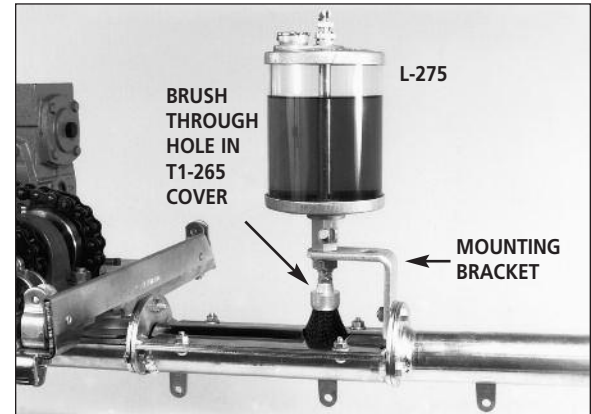

Figure 16
- Solenoid operated and drip type lubricators come complete with a mounting bracket that attaches to the inside of the appropriate track inspection section flange. The inspection section cover has a hole to allow the lubricator brush to pass through and contact the chain. (See **Figures 16 and 17**)